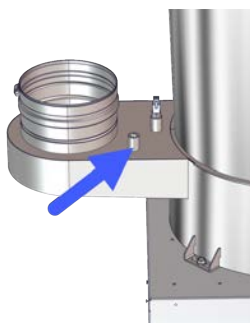

Figure 56 Flue gas test port
3. When the boiler reaches high fire, insert the combustion analyzer test probe into the flue gas test port (see Figure 56).